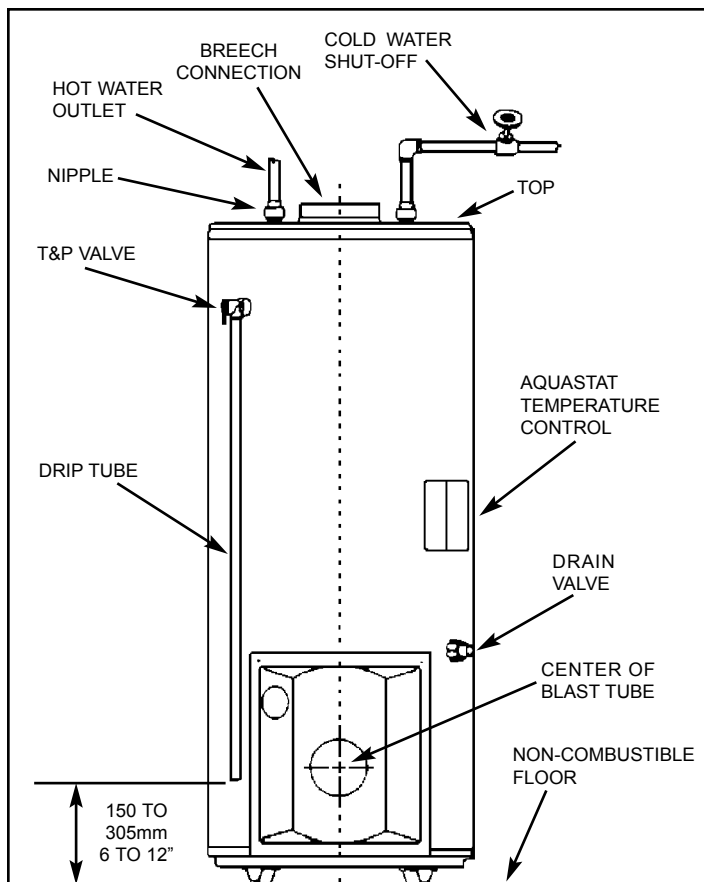

Figure 7 Plumbing Connections (Center Flue)
Piping, fittings, and valves should be installed according to the applicable installation drawing (Figures 7 & 8). A pressure-reducing valve and/or an expansion tank may be required for installations where the water pressure is high. The pressure-reducing valve should be located on the supply to the entire house in order to maintain equal hot and cold water pressure.
1. Install the water piping and fittings as shown in Figures 7 or 8. Connect the cold water supply to the fitting (3/4" NPT) marked "COLD" (or "C"). Connect the hot water supply to the fitting (3/4" NPT) marked "HOT" (or "H").